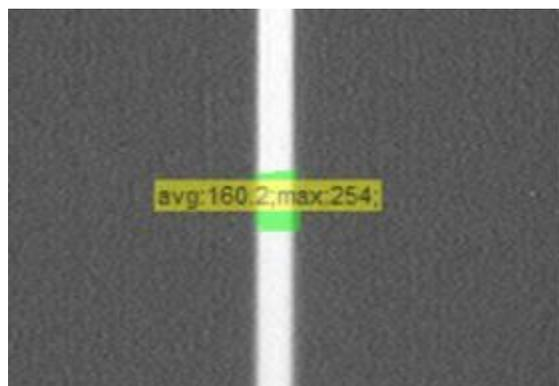

Figure 3. Definition of detection window using LabSmith uScope Intensity probes.
- c. Once created, the probe can be moved by clicking and holding the mouse button over the probe and dragging it to the desired location. The shape of the probe can also be modified by dragging the polygon points to create the desired shape (Figure 3).